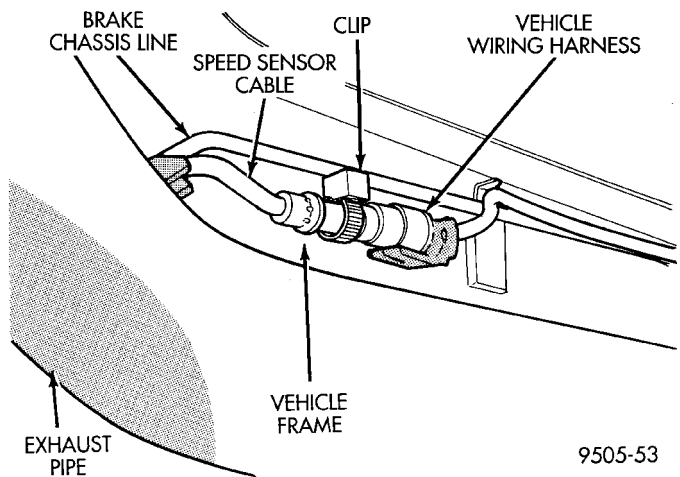
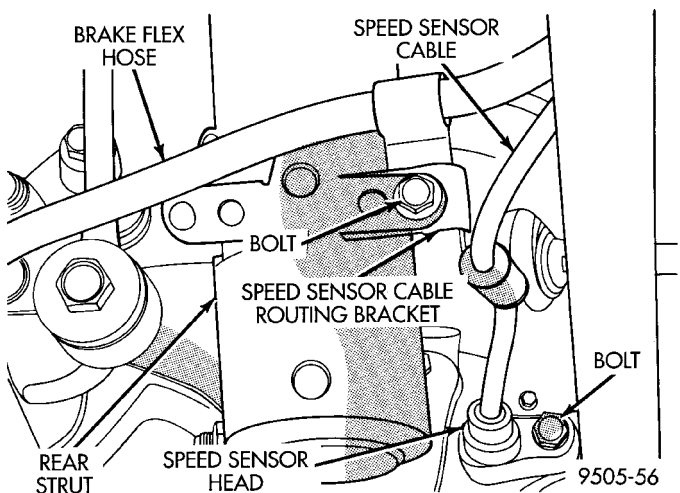

Fig. 33 Rear Speed Sensor Connection To Vehicle Wiring Harness
Fig. 34 Speed Sensor Head Mounting And Cable Routing
(3) Unplug speed sensor cable connector from vehicle wiring harness (Fig. 33). Remove clip (Fig. 33) attaching speed sensor cable connector to vehicle body.
(4) Remove the speed sensor cable routing bracket from under rear brake flex hose mounting bracket. Then remove the speed sensor cable from the routing clips on the rear brake flex hose and chassis brake tube.
(5) Remove bolt (Fig. 34) attaching the rear wheel speed sensor to the disc brake adapter. Then remove bolt attaching speed sensor cable routing bracket to rear strut assembly (Fig. 34).
(1) Install wheel speed sensor head into disc brake adapter (Fig. 34).
(2) Install wheel speed sensor attaching bolt (Fig. 34). Tighten the attaching bolt to a torque of 7 N·m (60 in. lbs.)
(3) Install the brake flex hose and wheel speed sensor cable routing bracket on the rear strut bracket (Fig. 34).
(4) Install wheel speed sensor cable into the routing clips on the rear brake flex hose and chassis brake tube.
(5) Plug speed sensor cable connector into vehicle wiring harness (Fig. 33). Install clip (Fig. 33) attaching speed sensor cable connector to vehicle body.
(6) Install the tire and wheel assembly on vehicle.
(7) Road test vehicle to ensure proper operation of the base and ABS systems.